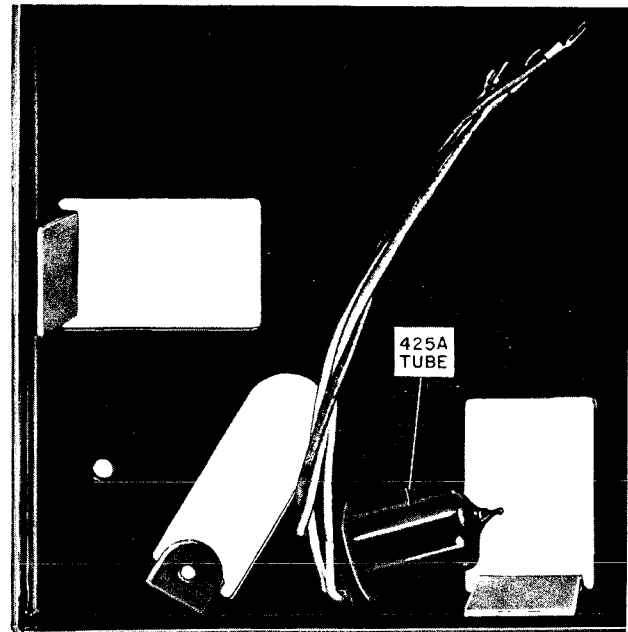

Fig. 9—Installation of Cold-Cathode Tube on Base Pan Assembly
- To install on the base pan assembly, secure the tube to an existing nailing hole using the mounting screw furnished with the tube (Fig. 9).